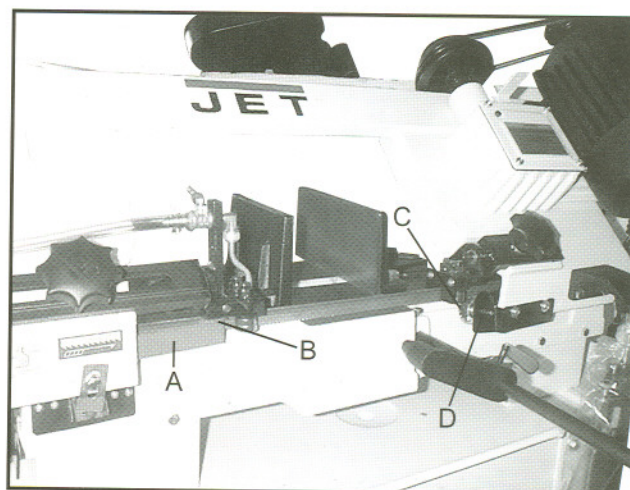

Fig. 12
3. Remove the red blade guard assembly (A, Fig. 12) by removing two screws (B, Fig. 12).
4. Remove the brush assembly (C, Fig. 12) by removing two screws (D, Fig. 12).